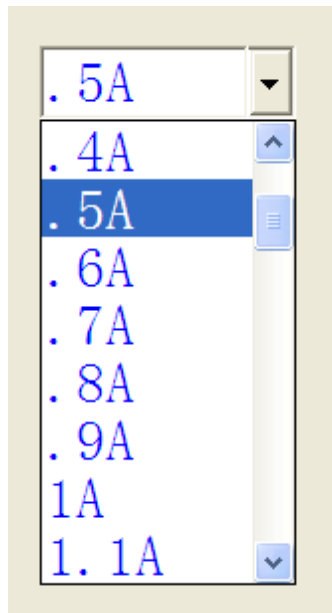

Figure 31
- B. Drop-down list box: Click the Current list box arrow, then click the Current you need, as figure 31